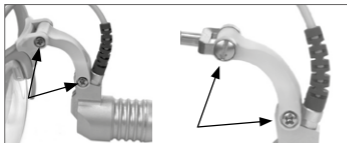

Fig. 13 Tighten the screws
- In order that the LED MicroLight remains in place in every gradually and freely selectable position, it may be necessary to retighten the screws using a screwdriver (see Fig. 13).